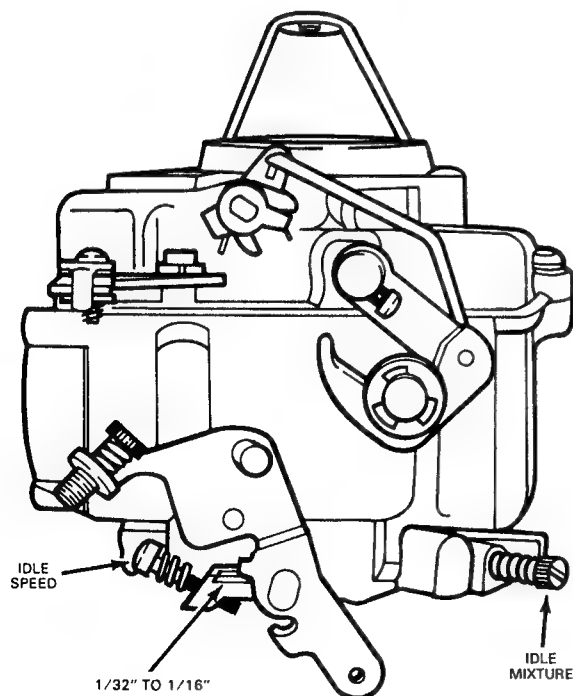

FIG. 3 Governor Adjustments
4. Adjust the high-speed stop screw on the governor to attain the desired maximum engine speed. (Figure 3). Do not exceed the recommended maximum rpm.